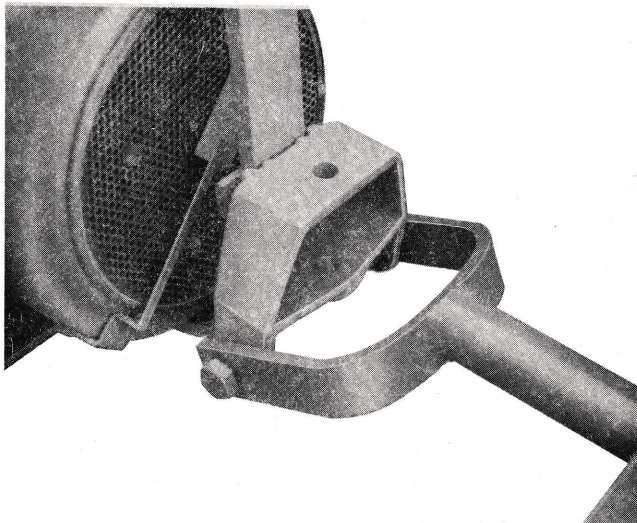

fig 5
1. The sulky is connected to the rear hitch of the Convertible Gravely as in fig 5 and 6. The special hitch bolts go through the sulky and hitch, and are secured with a flatwasher, lock-washer and nut (in that order for each bolt).